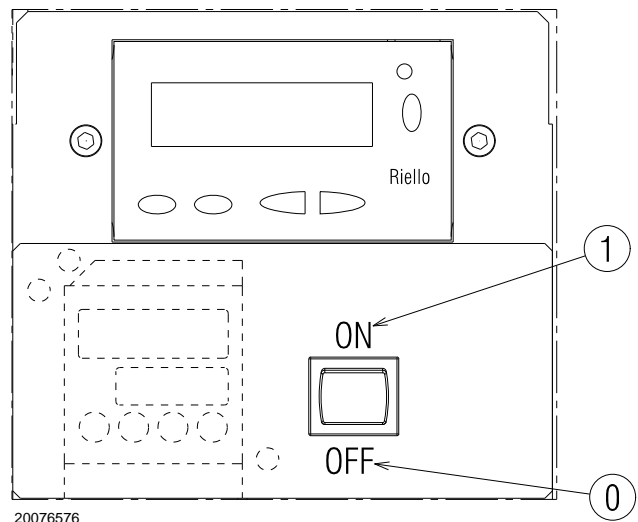

Fig. 34
Close the thermostats/pressure switches and set the switch of Fig. 34 on page 36 to "1/ON".
- put the switch of Fig. 34 on page 36 to "0/OFF" and wait until the control box carries out the switching off phase;
Close the remote controls and position the selector 1)(Fig. 34 on page 36) on "ON".